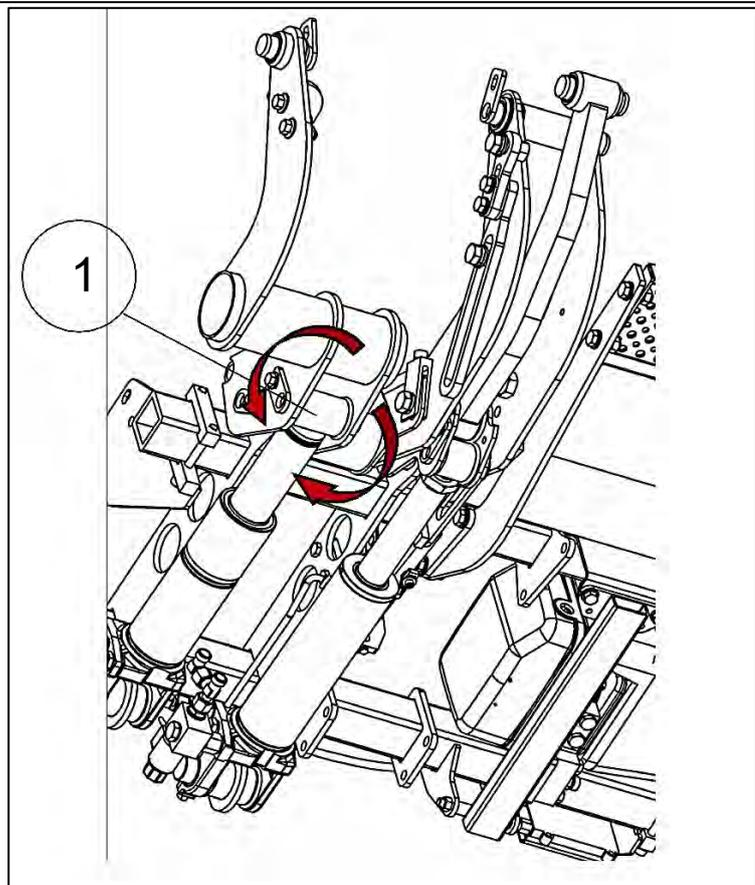

Figure 70
Adjust the platform to the desired position in relation to the vehicle floor by turning the lifting cylinder piston head (pos. 1) to the left (platform rises), or to the right (platform lowers). See Fig. 70.
- In order to perform this adjustment, the lifting cylinder head (pos. 1) must first be disconnected from the frame assembly by removing the safety pin!